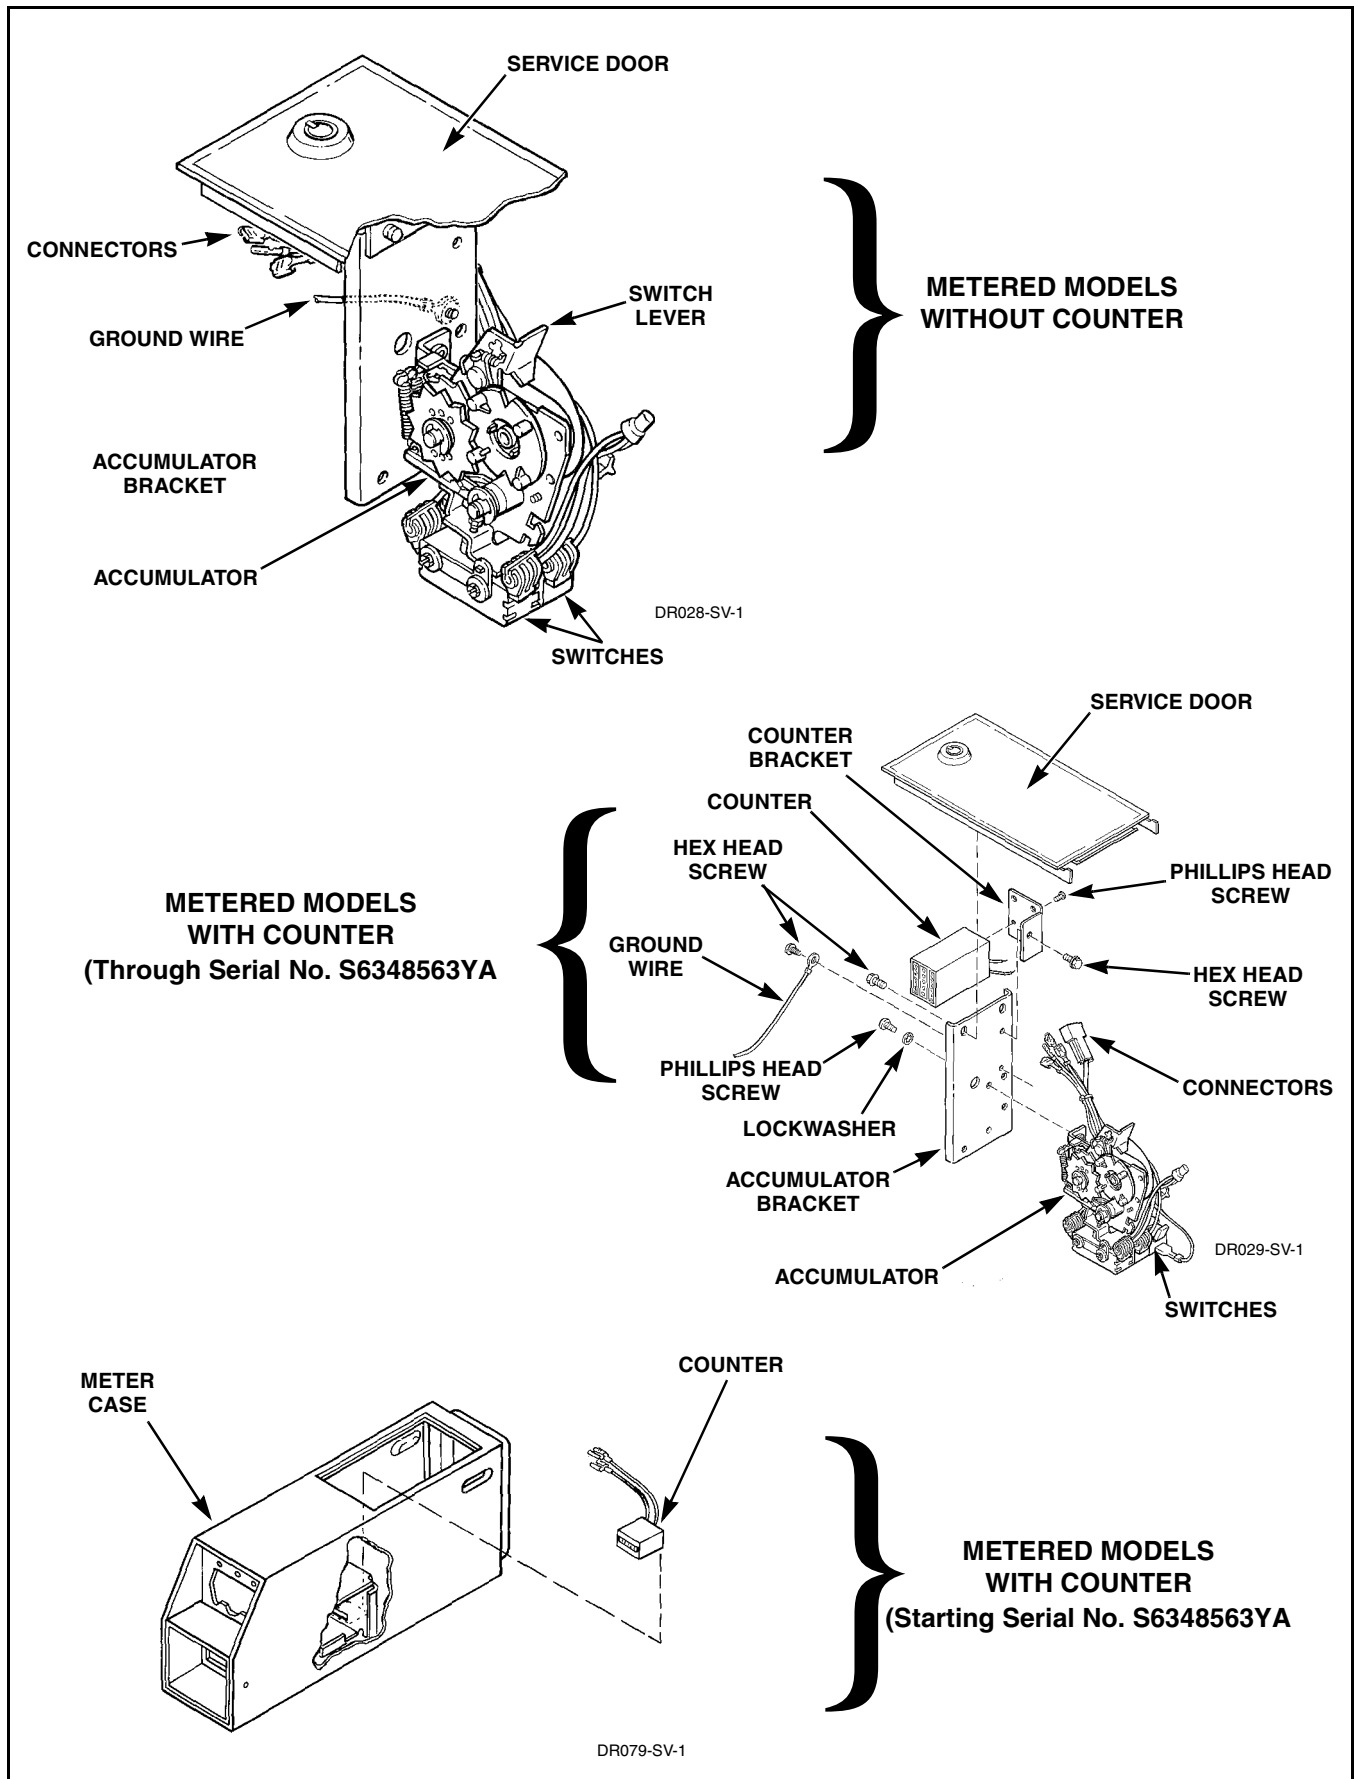

Figure 10
- c. **Metered Models:** (Refer to *Figure 10*)
- (1) Insert key in service door lock on top of meter case and unlock door.
- (2) Lift rear end of service door approximately 45° off meter case to disengage notched tabs with internal rib at top of meter case.
Refer to *Figure 10*
- c. Insert key in service door lock on top of meter case and unlock door. Refer to *Figure 10*.
- d. Lift rear end of service door approximately 45° off meter case to disengage notched tabs with internal rib at top of meter case. Refer to *Figure 10*.
- e. Disconnect accumulator wires at connectors. Refer to *Figure 10*.
- f. Remove hex head ground screw holding green ground wire to accumulator mounting bracket. Refer to *Figure 10*.